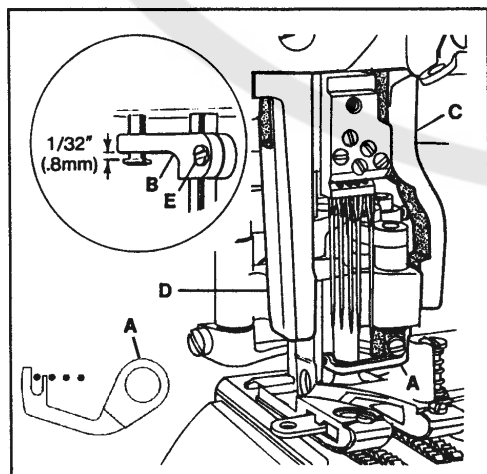

FIG. 20
Remove the presser bar regulating screw and the presser spring. Raise the needle bar to its highest position and remove the retainer. As the foot is slipped under the needles, swing the upper knife into the opening on the right side of the foot and slide the linkage onto the hook driving sleeve. Insert the presser bar through the linkage and into the presser foot shank. Tighten presser foot screw. With the presser bar inserted properly into the presser foot, position the foot left to right so the finger of cover thread carrier (A, Fig. 20) is between the first and second needles. Set presser bar guide (B, Fig. 20 Inset) so foot will not move. Set right presser foot guide (C) and left presser foot guide (D) to maintain setting. Loosen presser bar guide screw (E Fig. 20 Inset) and check to see that foot has vertical freedom with no right to left play, no bind. Put the needle bar in its lowest position, and set 1/32" (0.8mm) above head of presser bar guide stud. Tighten presser bar guide screw (E).
Turn the handwheel in operating direction until link (A, Fig. 20) has traveled fully to the front. There must be a $1/64$ " (0.4mm) clearance between link (A) and the back of needle bar (B) when link (A) starts to jackknife. Loosen screw (C) and rotate driving sleeve (D) to position link (A). Tighten screw (C).